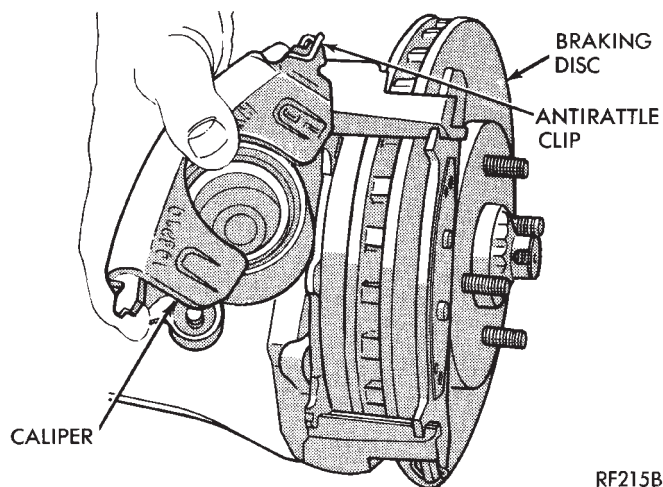

Fig. 16 Installing Family Caliper
(9) Carefully lower brake caliper assembly over braking disc (Fig. 16).